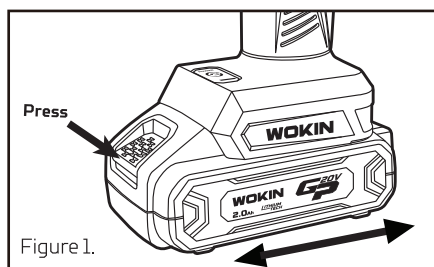

Figure 1.
1. Open the package, insert the the battery into the power connector of the pruning shear with designated direction, see figure1.